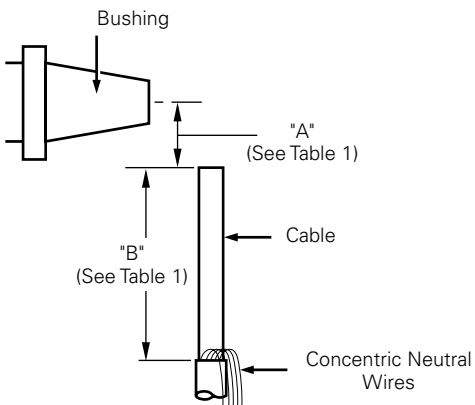

Figure 4. Line illustration of removing concentric neutral wires.
- Measure reference length "B" from end of cable. (Refer to Figure 4 and Table 1 to determine variable "B" length.)
- For unjacketed neutral cable, bind neutral wires using three (3) wraps of tape at "B" dimension.